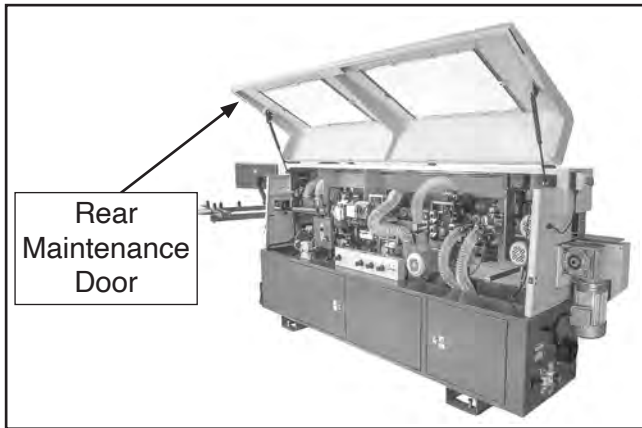

Figure 44. Rear maintenance door open.
20. Open rear maintenance door (see **Figure 44**). Pre-heating block and all sensors and motors should turn **OFF**, and all buttons should darken.